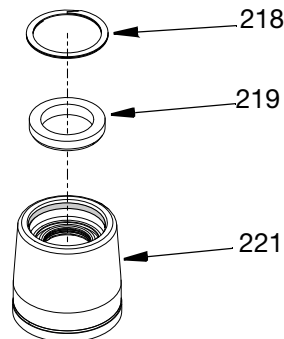

FIG. 21
4. Place the lower steel spacer (219) on top of the second lower shaft seal (220). Next snap the internal retaining ring (218) into the groove at the top of the poppet inlet check valve (221). See FIG. 21.